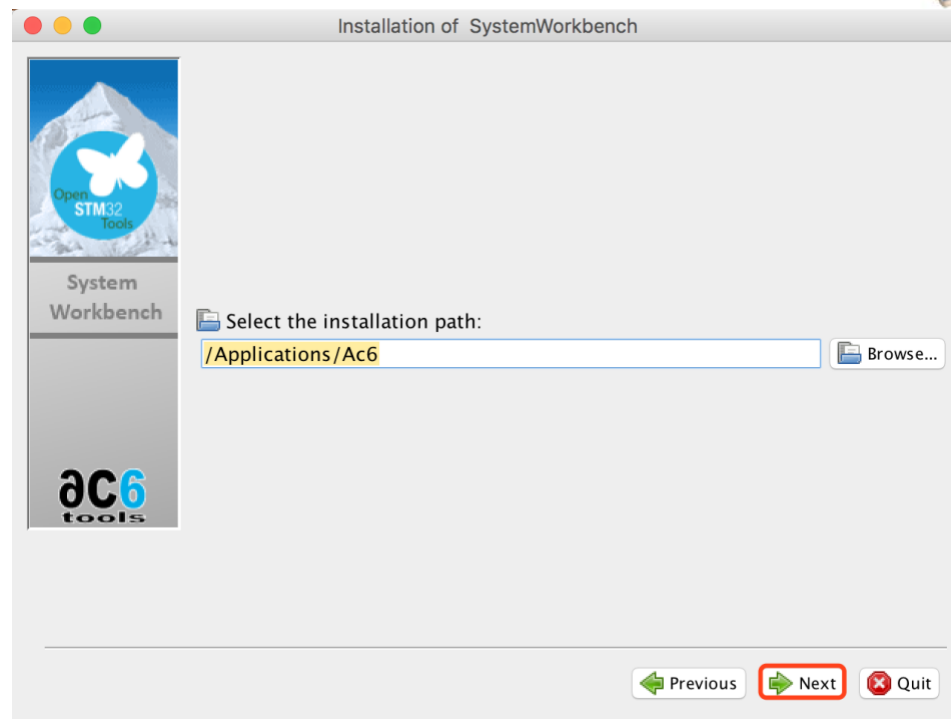

Figure 5: Use default installation directory
10. Use its **default** installation directory and click next to continue. See Figure 5.